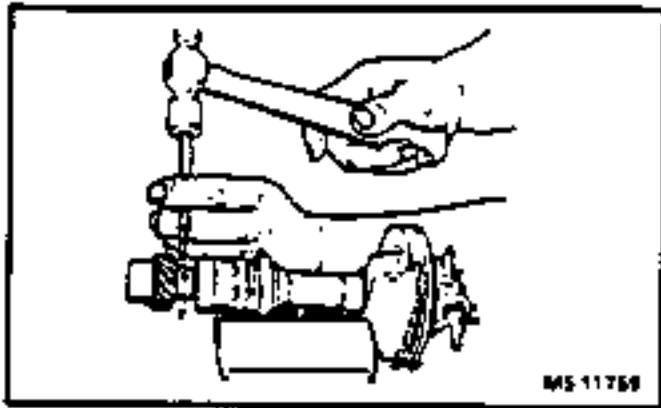

Figure 11 - Removing the Roll Pin
- Any time the distributor is disassembled, the retainer (5) must be replaced. Do not attempt to reuse the old retainer.
1. Screws (1) and washers holding the cap to the housing.
2. Cap (2) from the housing.
3. Rotor (3) from the shaft by lifting or prying straight up.
4. Roll pin (15) from the shaft (4).
- B. Drive out the roll pin with a small punch (Figure 11).
5. Driven gear (14), washer or spring (13), and spring retainer or tang washer (12).
6. Shaft (4) with the pole piece (8) and plate from the housing (11).
7. Retainer (5) from the housing (4) as follows: